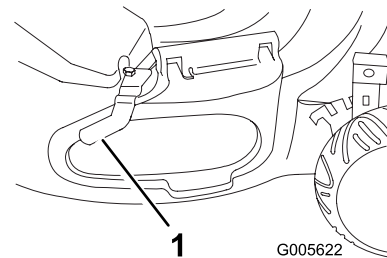

Figure 26
1. Remove the bolt and side cover clamp, then replace the bolt in the hole and save the clamp for future use (Figure 26).